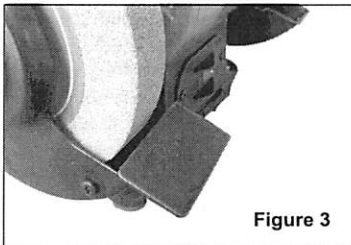

Figure 3
3. Adjust both tool rests approximately 1/16 to 1/8 in. from the grinding wheel and the sanding belt and tighten the knob bolts. (in Fig. 3) shows the correct adjustment for the tool rest at the grinding wheel.